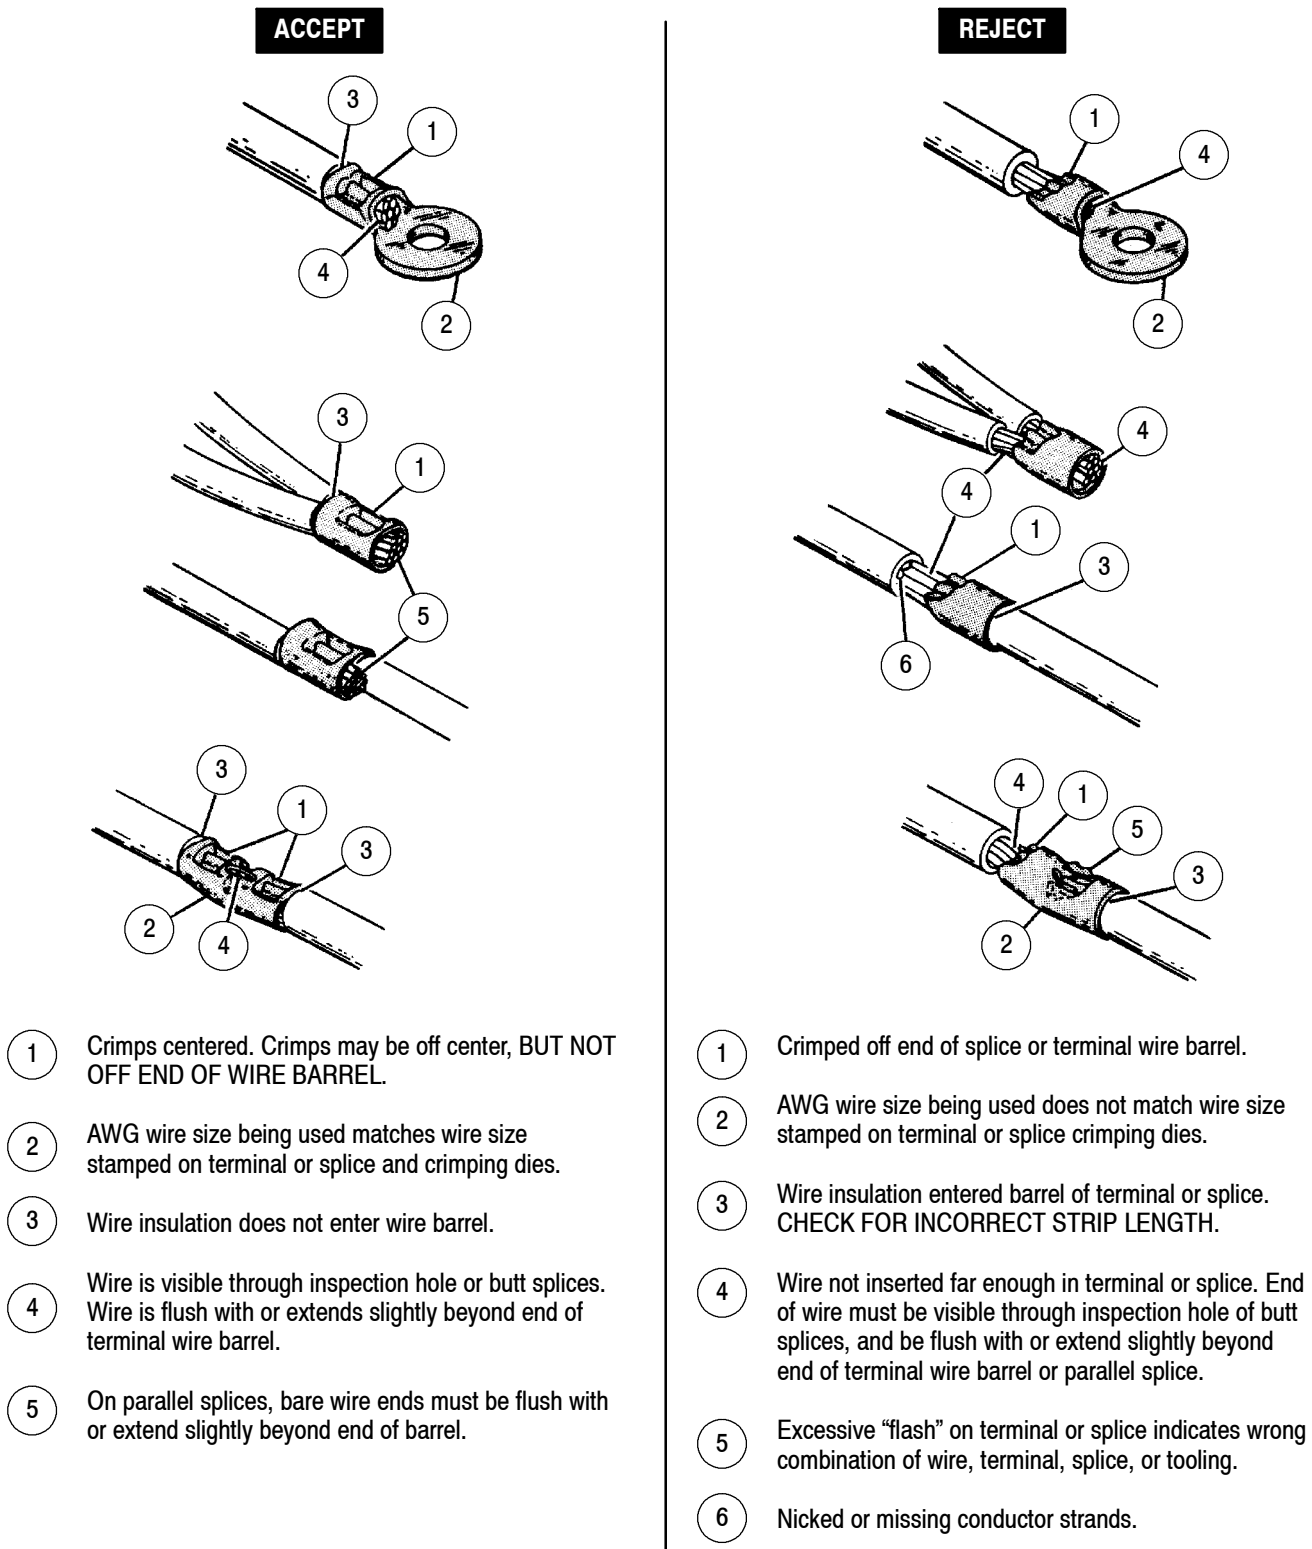

Figure 7
6. Refer to Section 3, CRIMP INSPECTION and Figure 7 for crimp inspection information.
Inspect crimped terminals and splices by checking the features described in Figure 7. Use only the terminals and splices that meet the conditions shown in the